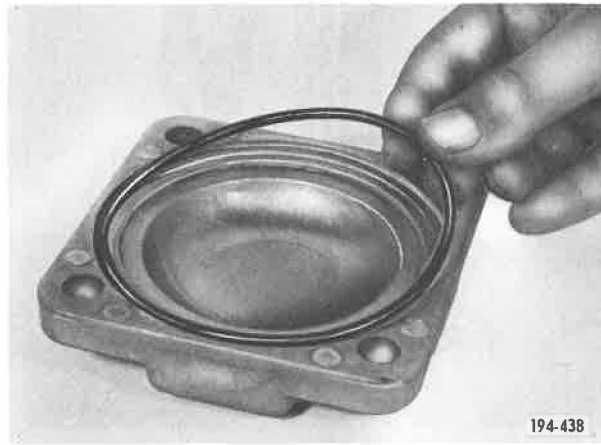

Figure 5-89. Installing Bearing Cover O - Ring
3. Position O-ring in countershaft front bearing covers. See Figure 5-89. Install covers with O-rings and capscrews. Tighten capscrews to recommended torque.